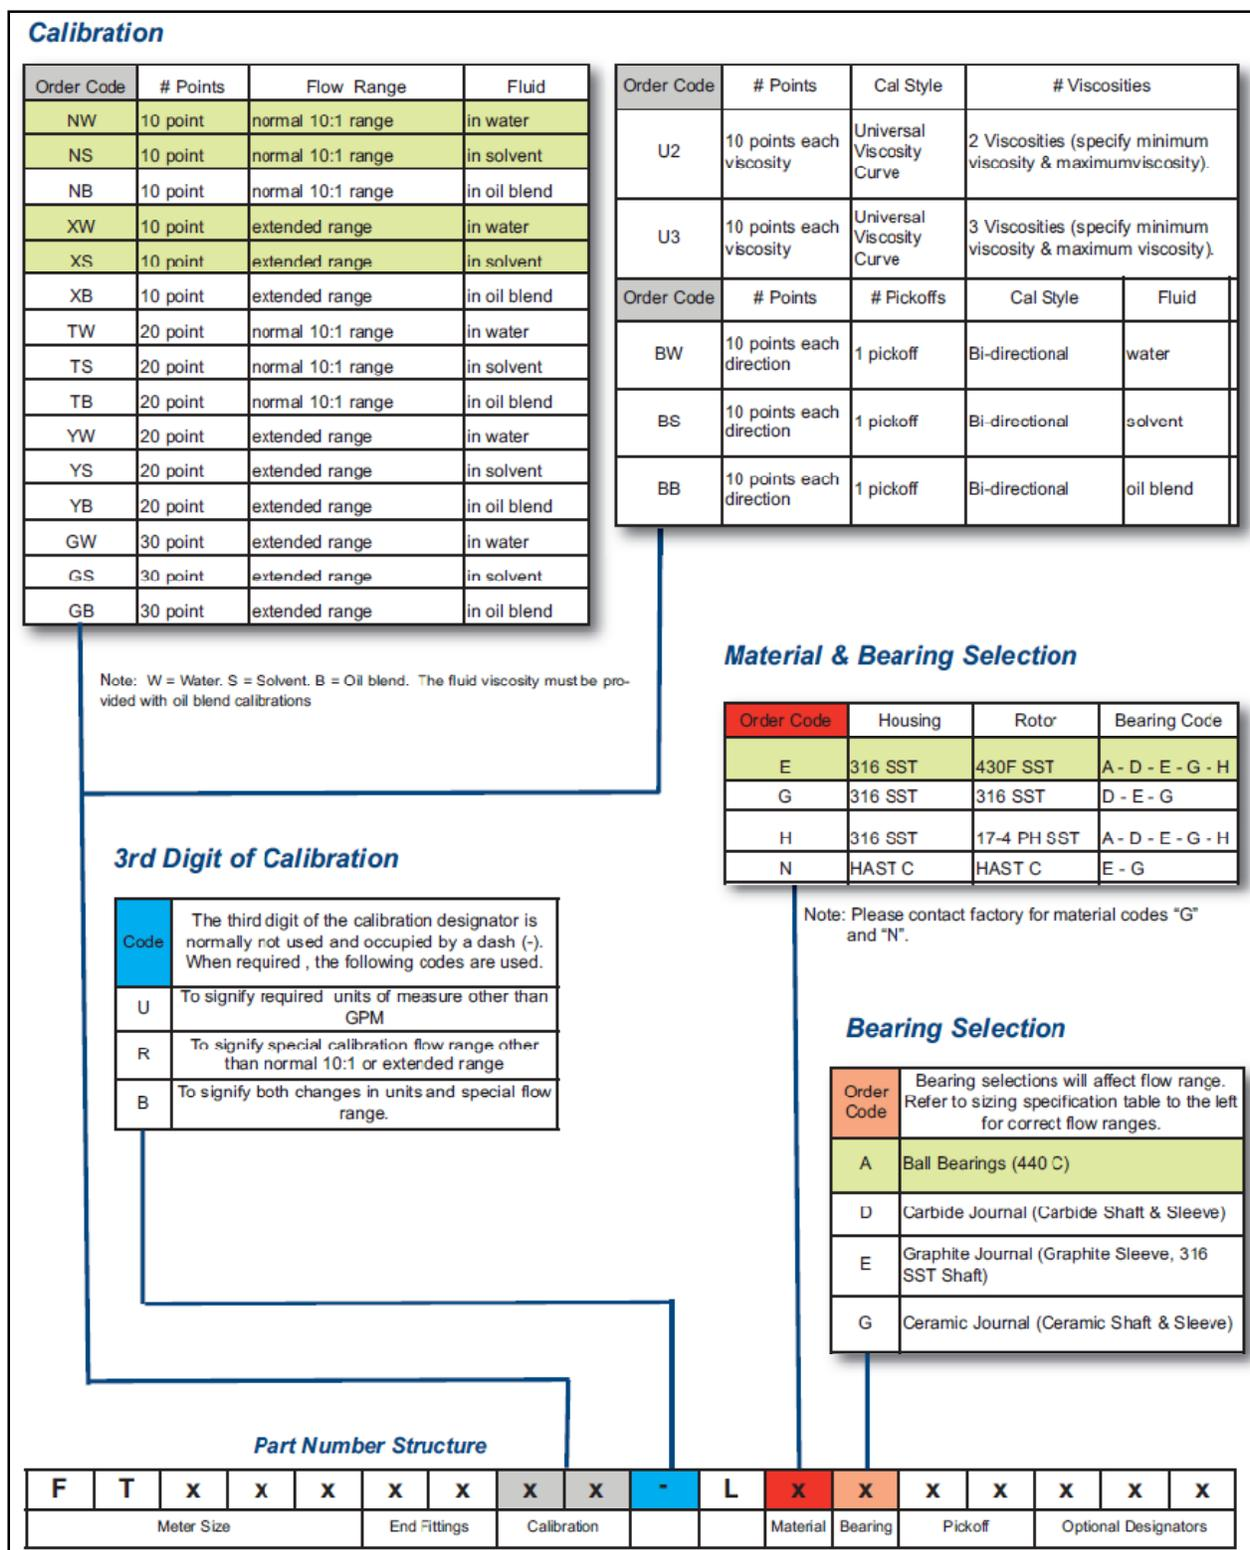

Figure 12-56. FT Meter Calibration and Bearing Selection Chart, Liquid
- See Figure 12-56 for bearing selection options.
- See Figure 12-56 for calibration options.